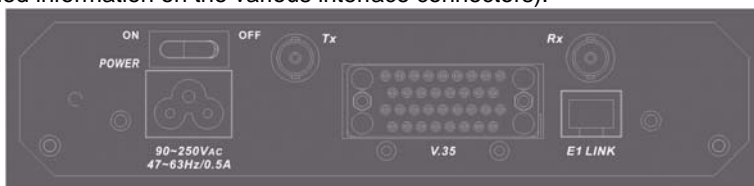
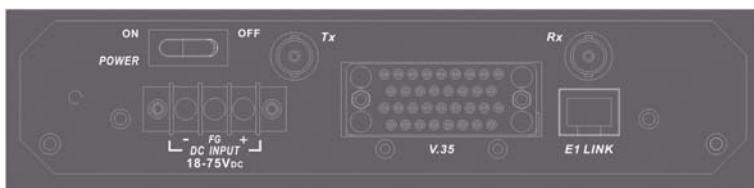

Figure 2.1 ETU01 rear panel AC
Figure 2.2 ETU01 rear panel DC
AC power is supplied to the ETU01 through a standard 3-prong IEC C6 receptacle (Refer to Figure 2.1) while the DC model utilizes a three pin terminal block (Refer to Figure 2.2). The ETU01 should always be grounded through the protective earth lead of the AC power cable or via Frame Ground (FG) terminal connection.